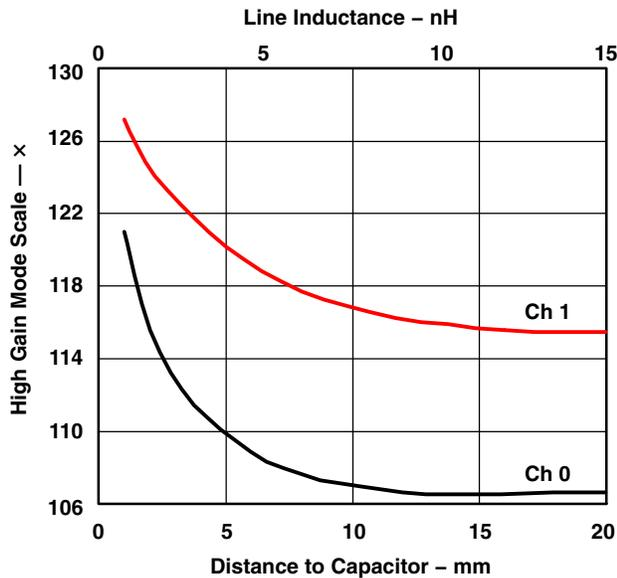

Figure 3
5. 111× gain is affected by the line inductance between the VDD pin and the decoupling capacitor. See Figure 3 for 111× gain scale versus line inductance characteristic.